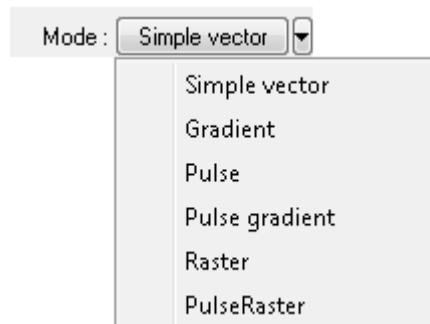

Fig. 12-27. Selecting the lithography mode
6. In the **Mode** drop-down list, select a desired option of raster lithography (Fig. 12-27). Two options of raster lithography are available: